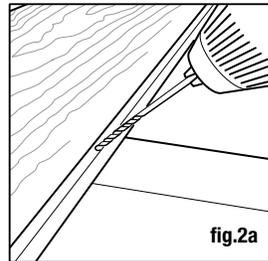

fig.2a
**OR:** Start installing from the center of the board and work out toward the ends of the board. Do not install by fastening each end first and working toward the middle. To keep the interior boards from moving over time, we recommend pinning the boards at the center of their length using a #8, 2" (5 cm) stainless steel screw. This holds the deck board in place at the center of each board and allows the decking to expand/contract at the ends. Pre-drill in the groove of the deck board with an 1/8" (3.2 mm) drill bit (fig. 2a). Drive screw into the groove so it's flush with the bottom of the groove (fig. 2b). This will allow you to properly fit a Stowaway hidden fastener into the groove.